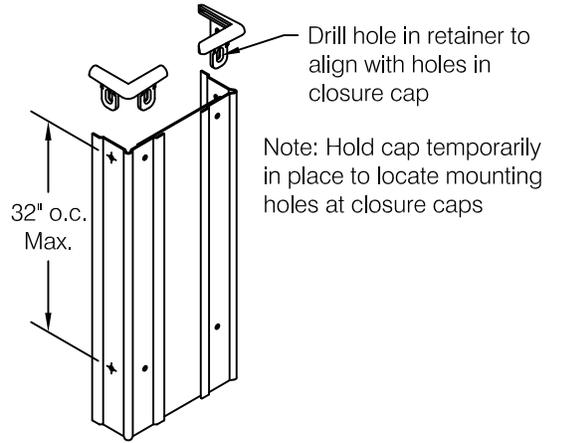

fig 2
- Step 2:** If installing on masonry pre-drill clearance holes in recycled retainer for hardware listed below using a #15 (.180") bit for #8 fastener. Locate mounting holes at closure caps and along the retainer not to exceed 32" on center, see **fig 2**. If installing on gypsum wall with stud backing proceed to **step 3**.
Drywall Installation: Locate mounting holes at closure caps and along the retainer not to exceed 32" on center, see **fig 2**. If it is necessary to install fasteners in locations where there is no metal backing or stud use pre-drilled recycled as a template to mark and drill wall for plastic Alligator® insert in accordance with instructions provided with hardware.